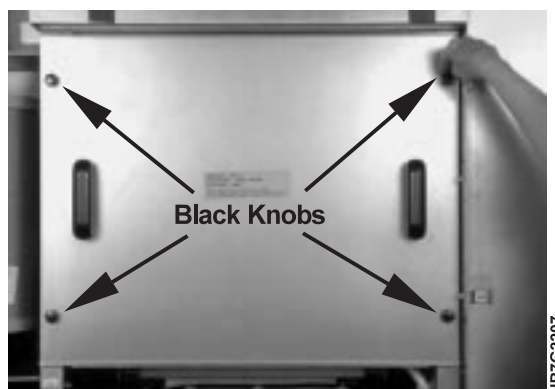

Figure 312. Fuser Cabinet Cover Black Knobs
- 7 Unscrew and remove the four black knobs located on the cover of the fuser cabinet, as shown in Figure 312.